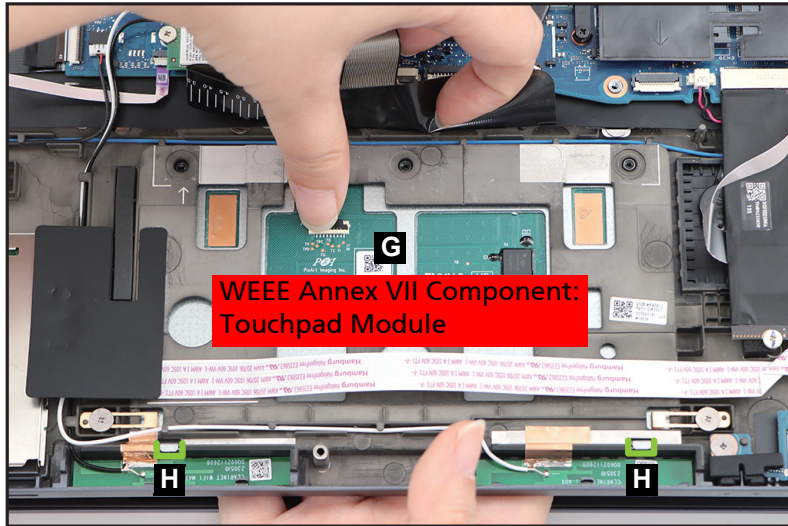

Figure 1-43. Touchpad Module Removal
7. Push the upper part of the touchpad module (G) and slide the touchpad module slightly to disengage it from the bottom latches (H) (Figure 1-43). Then remove the touchpad module from the top assembly.